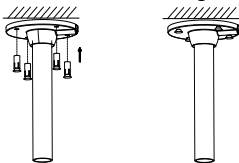

Figure 2-14 Install the Pendent Cap
1. Fix the pendent mount bracket in the ceiling and tighten the screws, as shown in Figure 2-14.